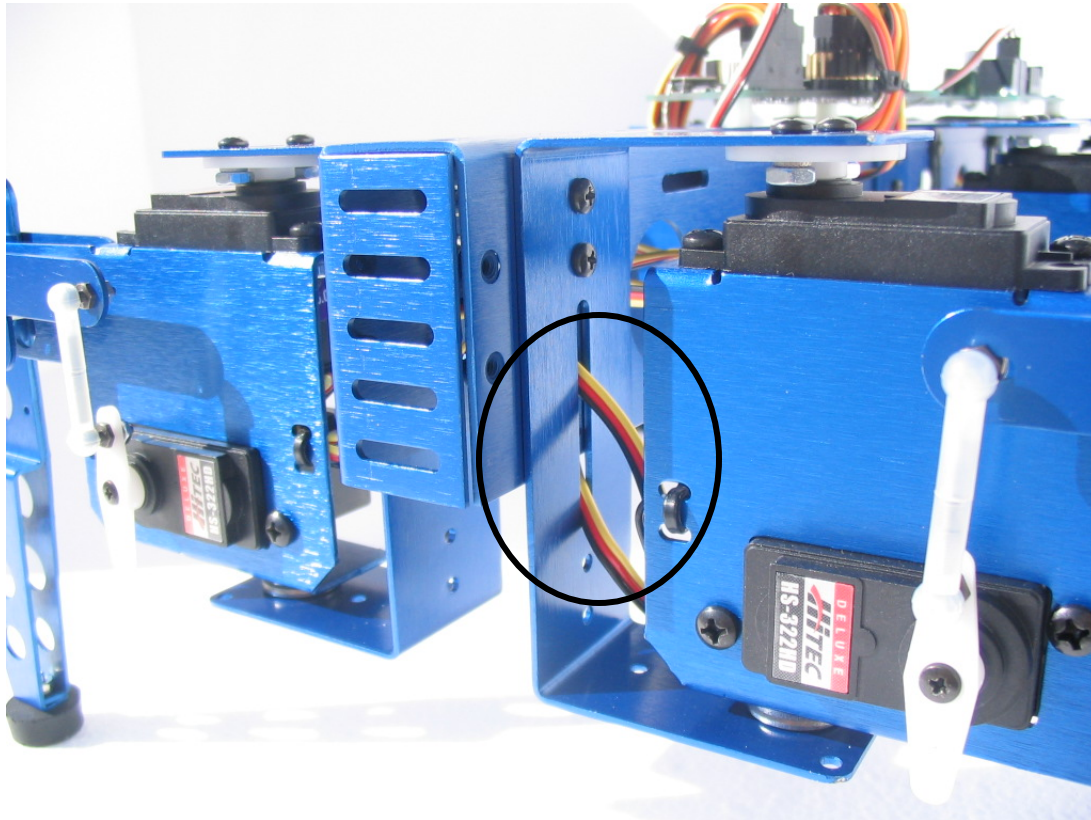
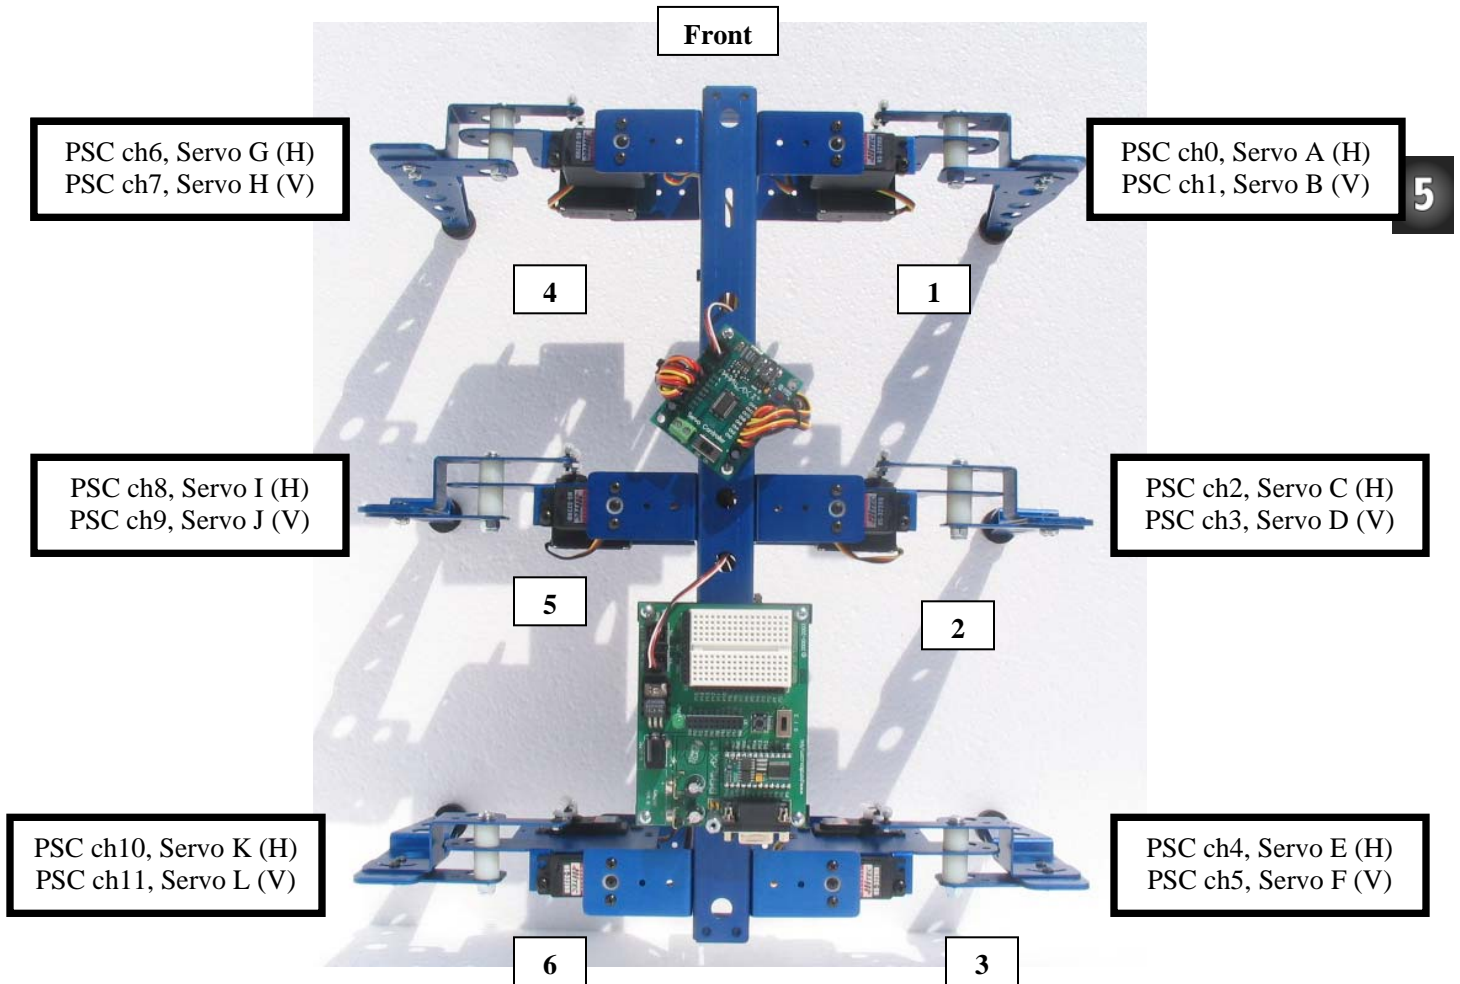
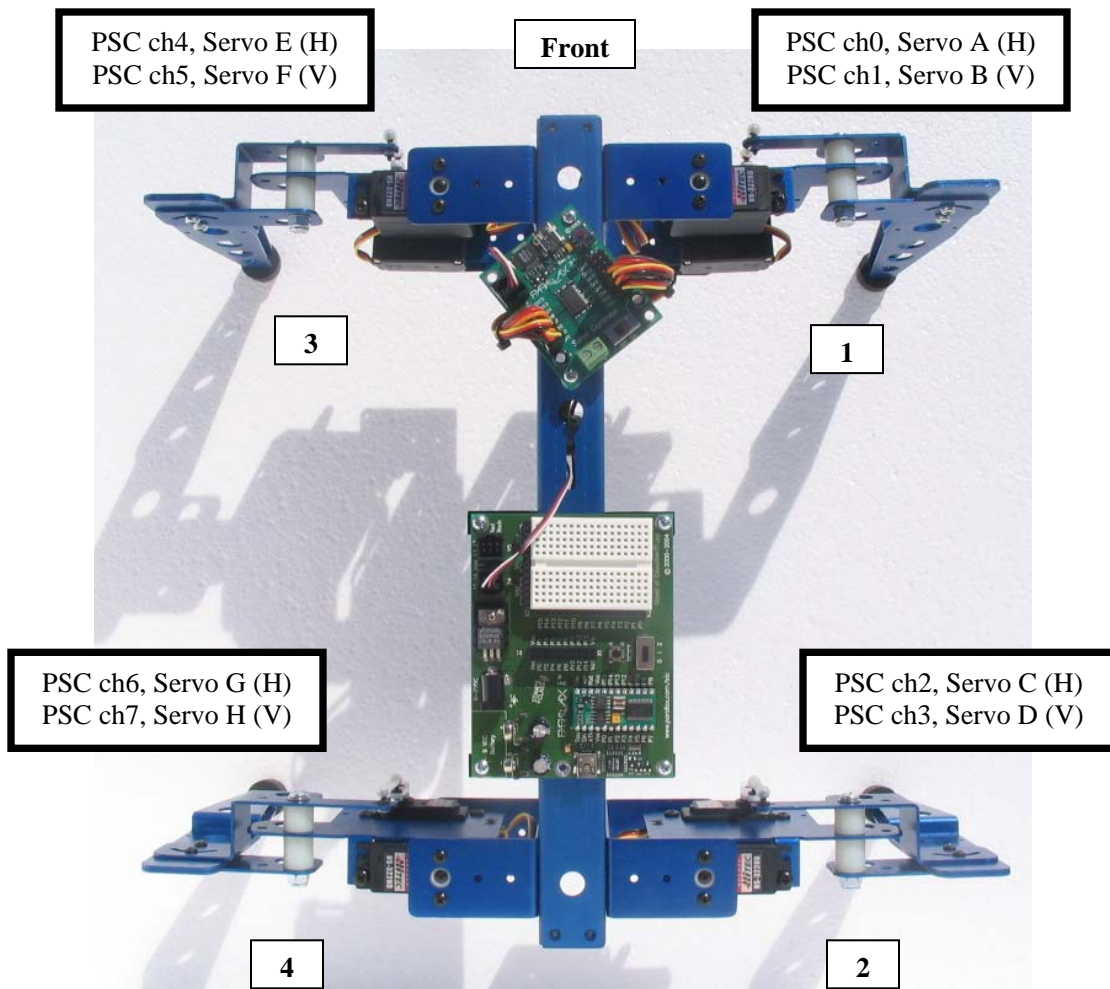

Figure 24 –Servo wire routing
Figure 26
Figure 27
26. Using figure 24 and 25, route the servo wires to the Parallax servo controller one leg at a time. Use figure 26 for the HexRod PSC connections or figure 27 for the QuadRod PSC connections.